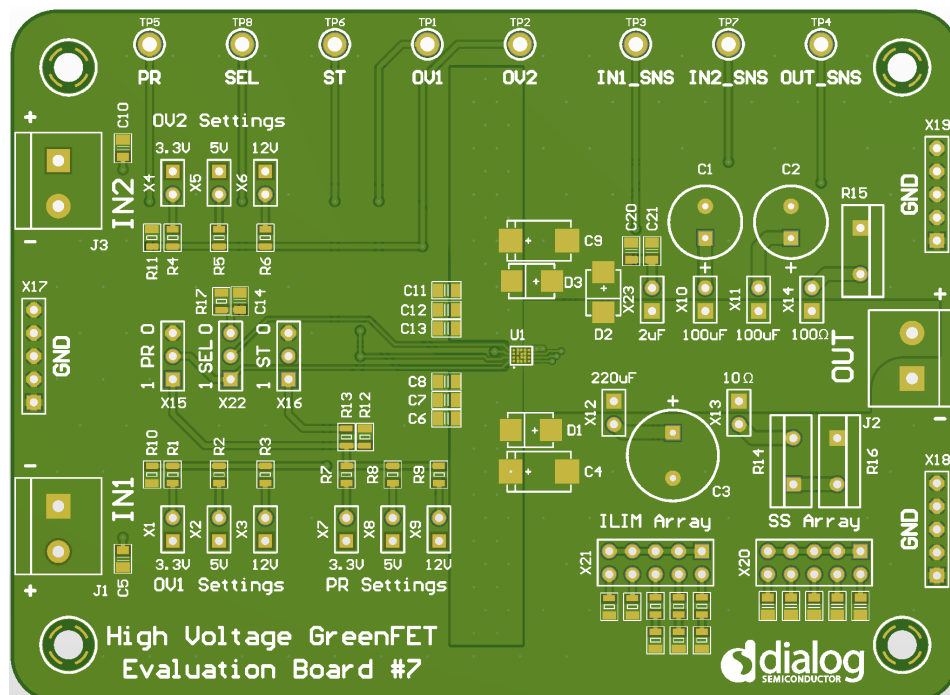

Figure 28. SLG59H1403C Evaluation Board
1. Since the IN[1,2] and OUT pins dissipate most of the heat generated during high-load current operation, it is highly recommended to make power traces as short, direct, and wide as possible. A good practice is to make power traces with an absolute minimum widths of 15 mils (0.381 mm) per Ampere. A representative layout, shown in Figure 28, illustrates proper techniques for heat to transfer as efficiently as possible out of the device;
A High Voltage GreenFET Evaluation Board for SLG59H1403C is designed according to the statements above and is illustrated on Figure 28. Please note that evaluation board has IN[1,2]\_Sense and OUT\_Sense pads. They cannot carry high currents and dedicated only for  $R_{DS_{ON[1,2]}}$  evaluation.